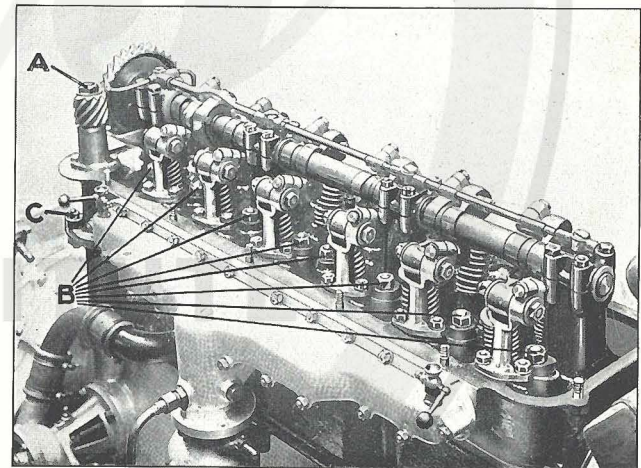
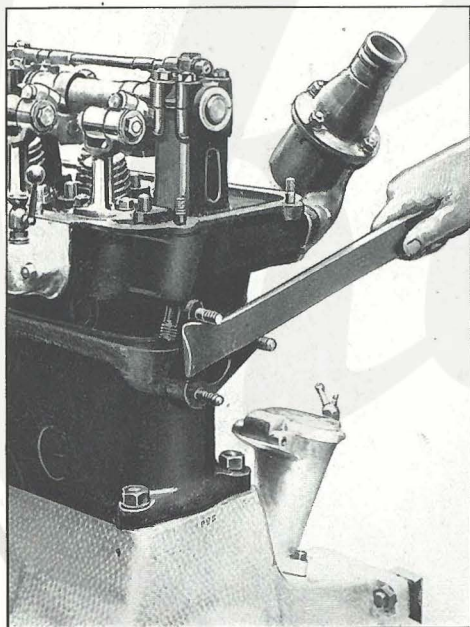
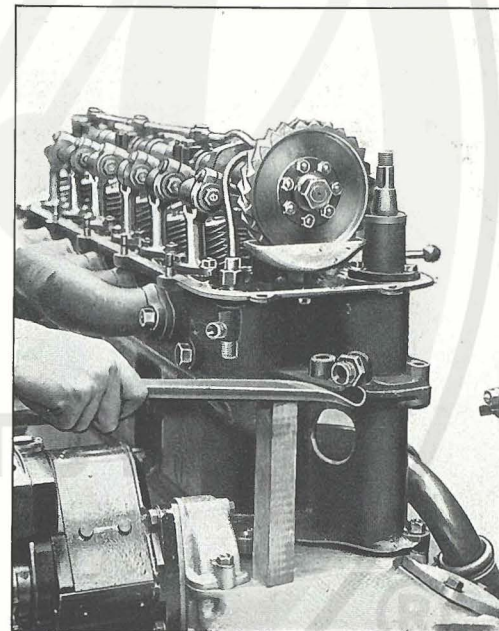

Fig. 25.
Fig. 26.
Fig. 27.
Cylinder Head. Remove the nut (A-Fig. 25) from the top of vertical shaft and withdraw the spiral pinion from the vertical shaft; remove $\frac{7}{16}$ " nuts (B) and washers with box spanner supplied in kit; remove three $\frac{3}{8}$ " bolts (C) securing the vertical shaft housing to the cylinder. Use slight leverage to dislodge the cylinder head from the dowel bolts, prising off the fan bracket stud at the front end (Fig. 26) and under the cam gear tray at the rear end prise off a packing block placed on the crankcase (Fig 27). The cylinder head can then be lifted off.